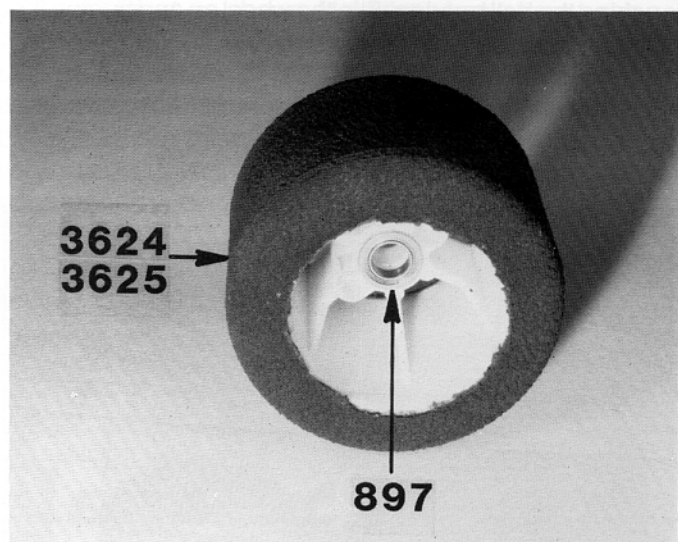

Fig. 65
□ **Fig. 65**—Push another #897 ball bearing into the RIGHT HAND ONLY rear wheel, as shown.